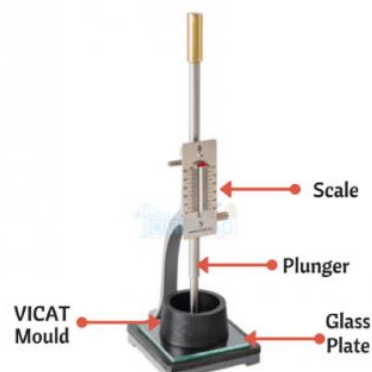

Fig.3.1 Vicat Apparatus
3.1 Determine the initial and final setting times for the given sample of cement, to know the time of mixing and placing of cement mortar / concrete at site and also the undisturbed time to be allowed after placement. as shown in Fig.3.1.